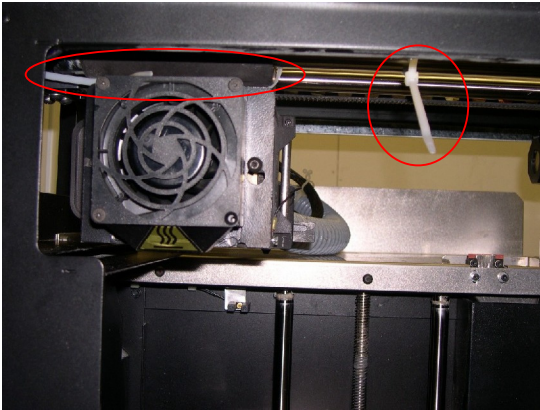

Figure 2. Cable ties securing the extrusion head to Z-axis frame
4. Cut and remove the cable ties that secure the extrusion head to the Z-axis frame (see Figure 2).
Before powering on Prodigy Plus, if you have not yet done so, cut and remove the plastic cable ties that secure the extrusion head to the Z-axis frame (see Figure 2 on page 14). The machine will be damaged if powered on while the head is tied to the Z-stage.